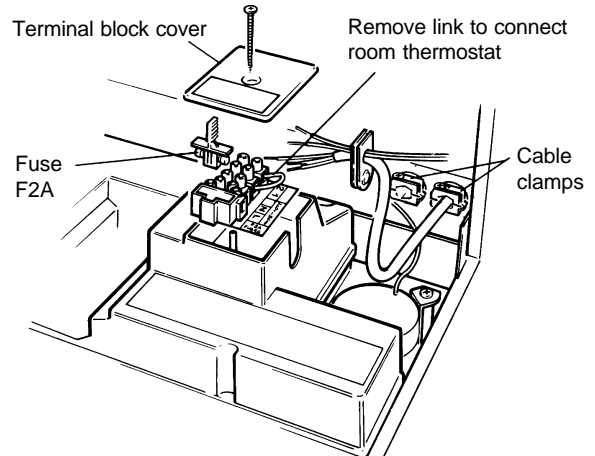

Fig. 14
4.8 CONNECT THE MAINS SUPPLY - Fig. 14
2. Remove the screw securing the terminal block cover from the back of the control box (see Fig. 14). Pass the mains supply cable through the cable clamp and connect as follows:- Brown to L, Blue to N and Green/Yellow to \perp . Ensure correct polarity.